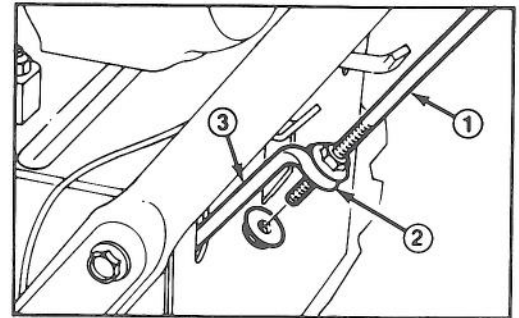

Figure 3
2. Insert traction rod through loop in lower traction rod (Fig. 3).
3. Thread a flange nut (flange side up) onto bottom of traction control rod to loop in lower traction rod (Fig. 3)
6. Adjust flange nuts on traction rod (Fig. 3) until dimension is attained.